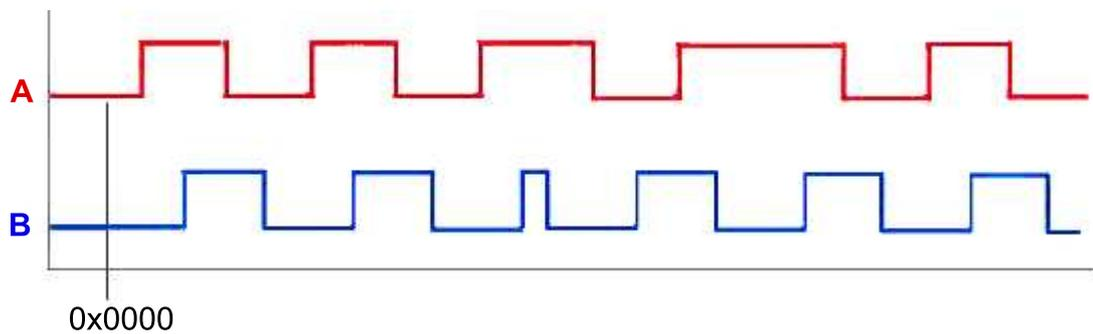

Figure 2: Sample output for pre-lab problem 3a. The 16-bit counter is initialized to 0x0000.
- a. On Figure 2, **draw lines where the quadrature decode function would update the counter and label each line with the value the counter would hold.** Assume the function is operating in slow mode.